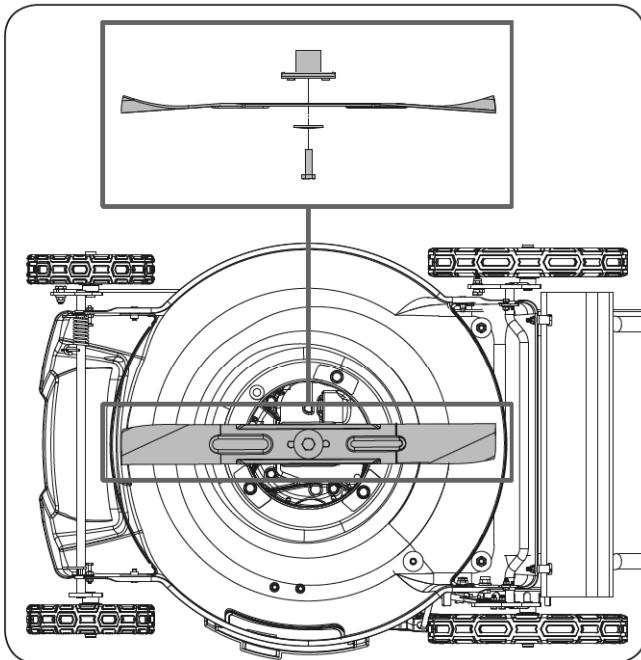

Figure 13
4. Remove the blade, saving all mounting hardware. Examine the blade support and blade bolt to see if there is damage. Examine the motor shaft to make sure that it is not bent. (See **Figure 13**)